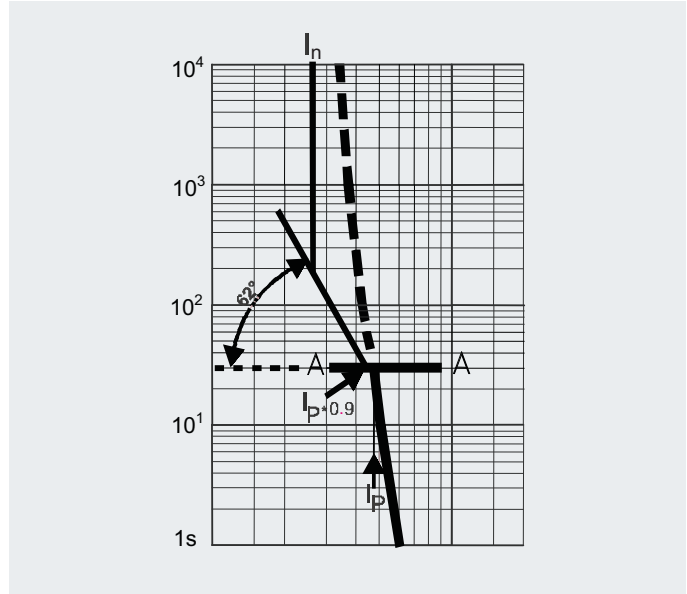

Figure 3
- The  $I_p$  found for the time equal to the crossing between the horizontal AA-curve and the actual melting curve should be multiplied by 0.9 ( $I_p \times 0.9$ ) and this point is marked on the horizontal AA-curve, see Fig. 3.